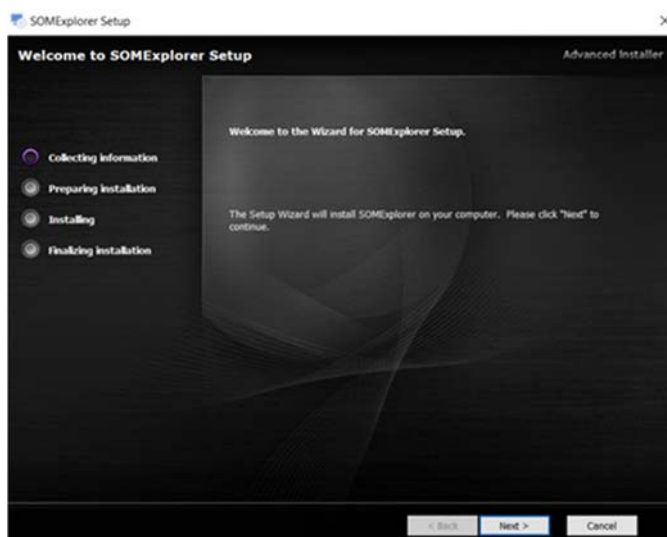

Figure 2 – The main window of the installation program
2.3 As a result, the main window of the installation program will appear on the computer screen, shown in Figure 2